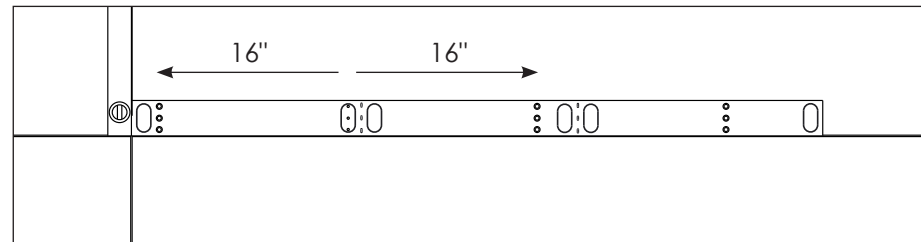

Figure 5: Move Studs at Interference Locations
- Mark new stud locations at 16" increments on both sides of the stud if a stud location directly overlaps with a KEEP OUT slot. Refer to **Figure 5**. If a stud location overlaps with a KEEP OUT slot but not enough to reach the center of the stud mark, do not consider this an interference.